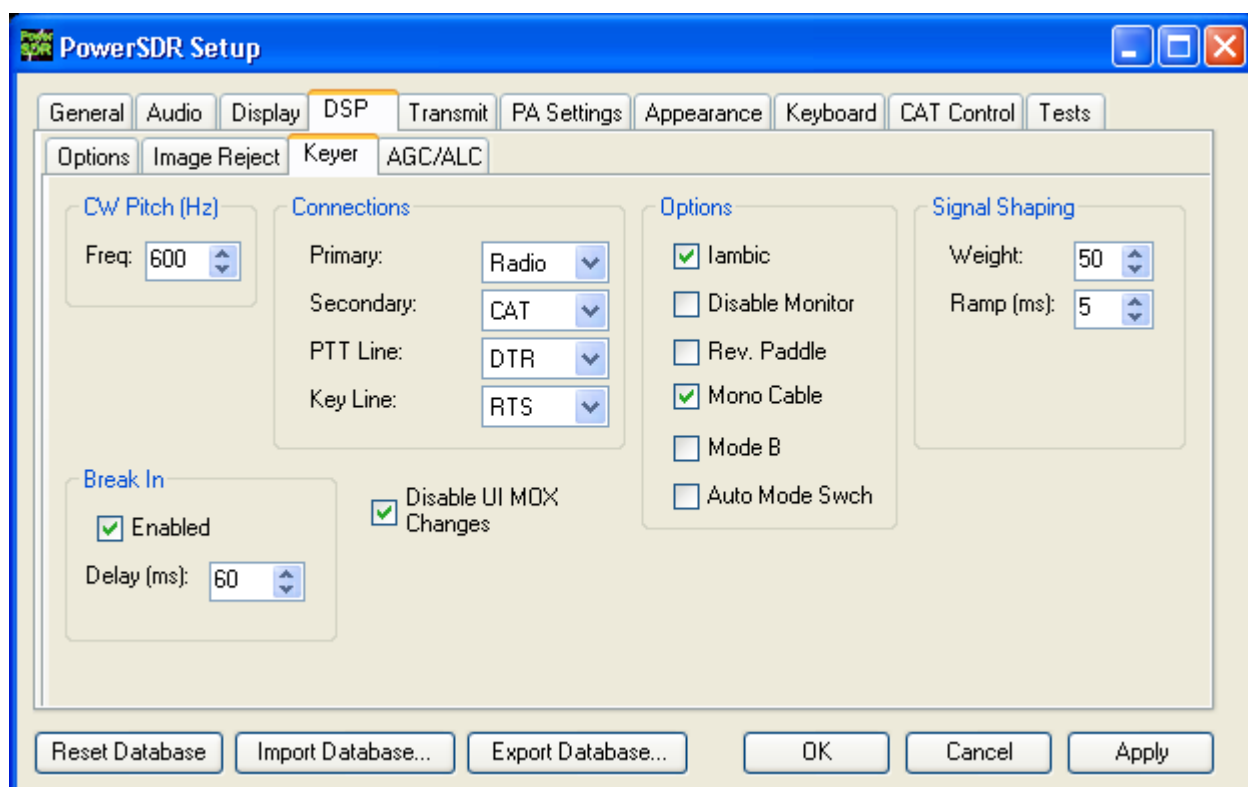

Figure 40: Setup Form – DSP Tab, Keyer Sub-Tab
2. Next, in PowerSDR open the **Setup Form – DSP Tab, Keyer Sub-Tab** shown in Figure 40 below to access the Internal Keyer controls.